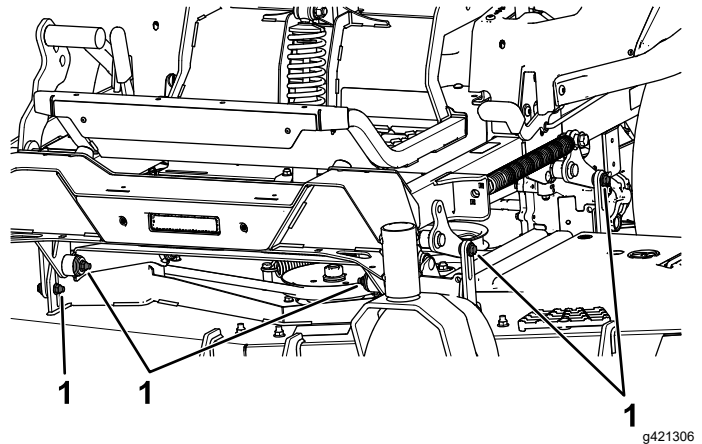

Figure 99
7. Remove and retain the bolts and nuts on both sides of the machine (Figure 99).